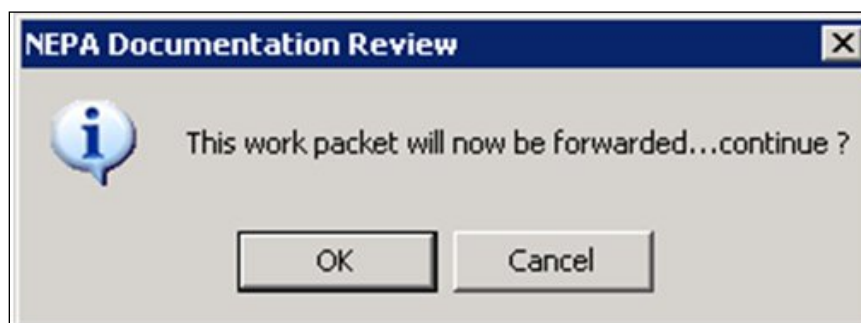

Figure 7-57: Forward Work Packet Dialog Box
16. If the NEPA Documentation Review process is complete, the Forward Work Packet dialog box is displayed (Figure 7-57).